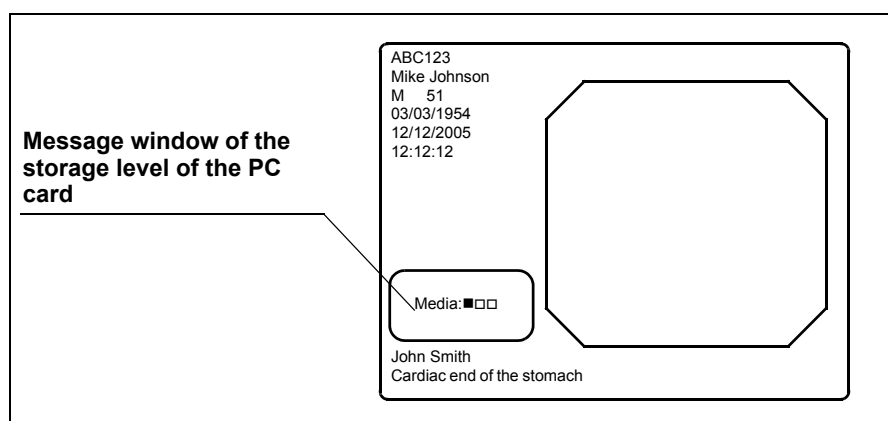

Figure 5.55
- If the storage level becomes less than 30 images during the examination or if the first release operation is done after turning the video system center ON when the storage level is less than 30 images, a message appears on the screen (see Figure 5.55).